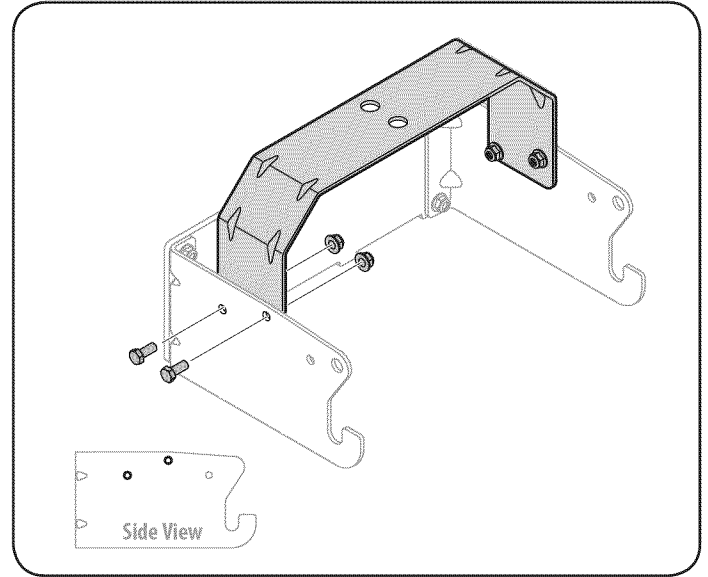

Figure 2
2. Flip over assembly and mount the hitch support bracket to the mounting assembly as seen in Fig. 2.